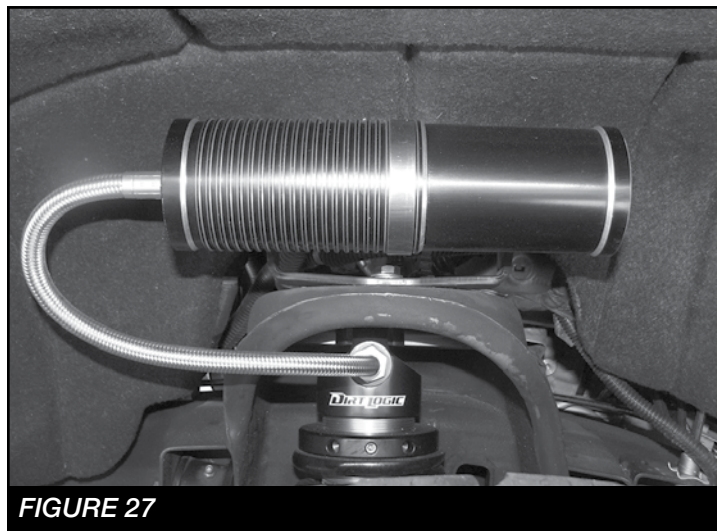

FIGURE 27
27. If installing Dirt Logic coilover, FTS810152 or FT820282, do so at this time using hardware provided with that shock. When installing the Fabtech coilover the coilover should be offset towards the front of the truck. **NOTE: See figure 27 for resi mount orientation.** Otherwise, continue with Step 29 with the factory shock.